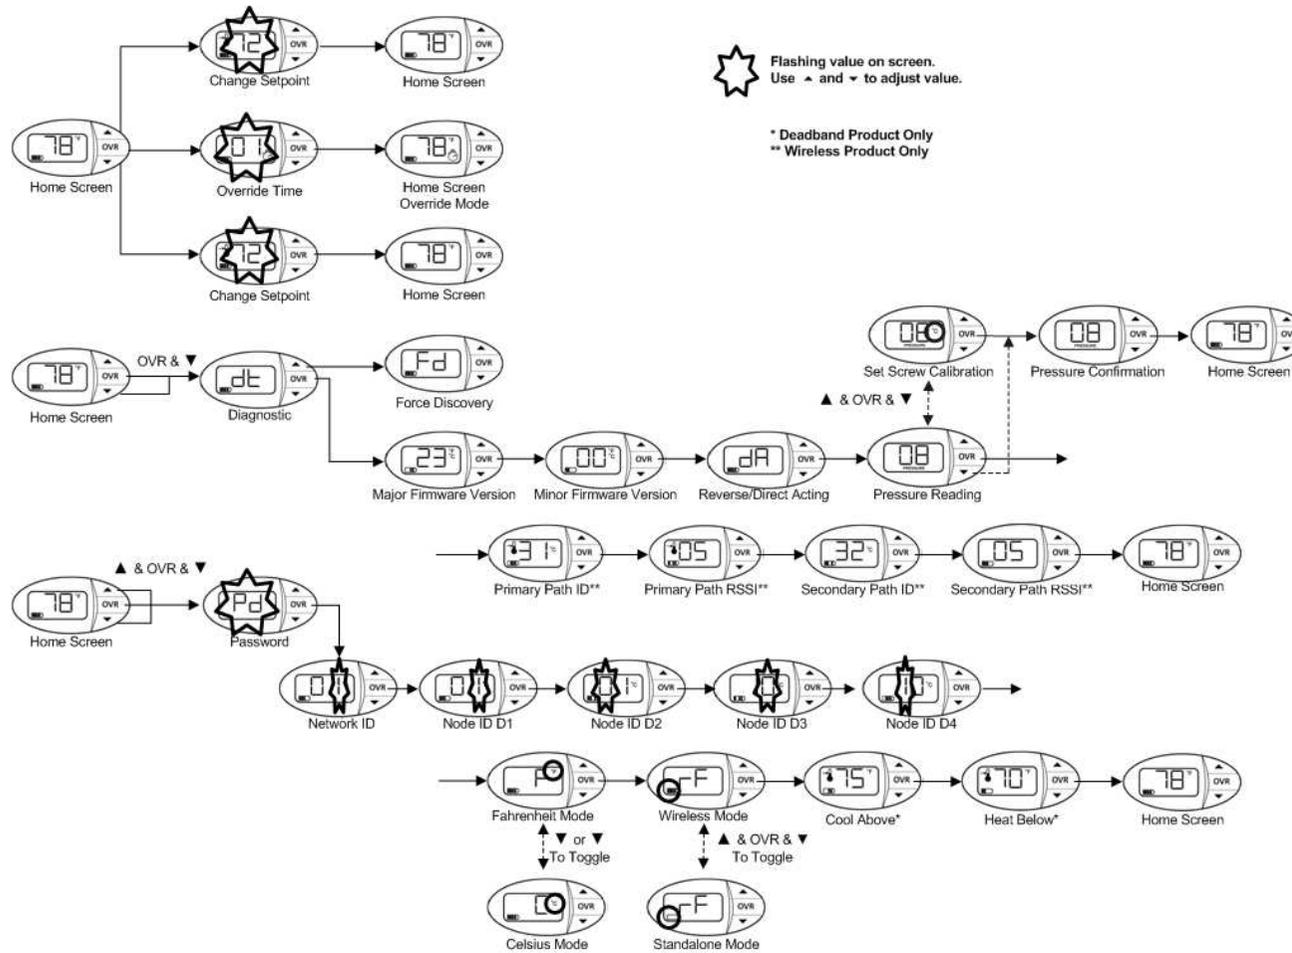
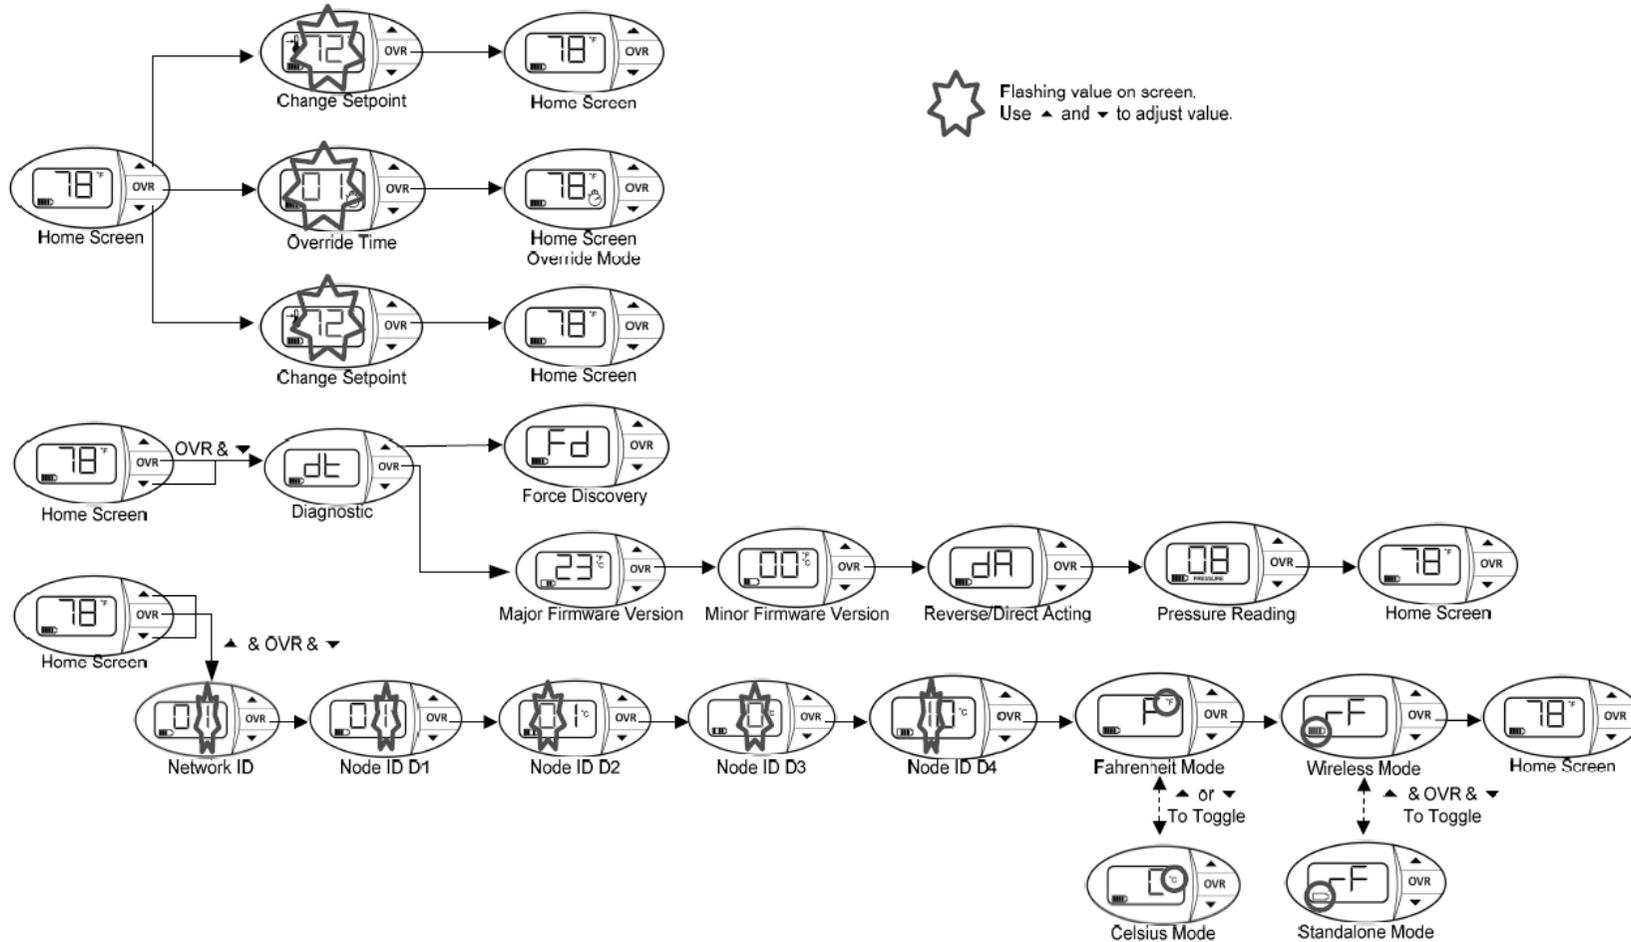

Figure 4: WPT Menu Structure (FW v25.00 and higher)
Figure 8: WPT Menu Structure (FW v22.00 & V23.00)
- Perform a Force Discovery. Refer to Figure 4 or Figure 8 for the menu structure.
3. Press OVR four times. The LCD displays the branch pressure in PSI along with PRESSURE indicator. Refer to Figure 8.